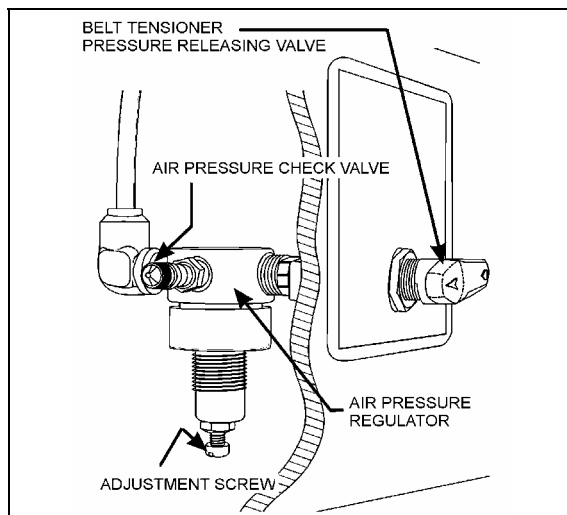

FIGURE 21: AIR PRESSURE REGULATOR
1. Open engine compartment rear doors and locate the belt tensioner pressure releasing valve (Fig. 21), mounted above the engine R.H. side door next to the air pressure regulator, then turn handle counterclockwise in order to release pressure and tension on belts.
3. Reset belt tensioner pressure releasing valve (Fig. 21) to 55 psi (380 kPa) for Series 60 engines to apply tension on the new belts as explained in Section 12.